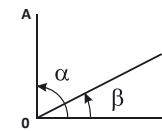

Figure 5
- c) Angle: Point the vertical line of the grid to the target A and take the angle reading  $\alpha$  on the limb. Point to the target B and take the angle reading  $\beta$  on the limb. The angle between A and B will be  $-\alpha - \beta$  (Figure 5).